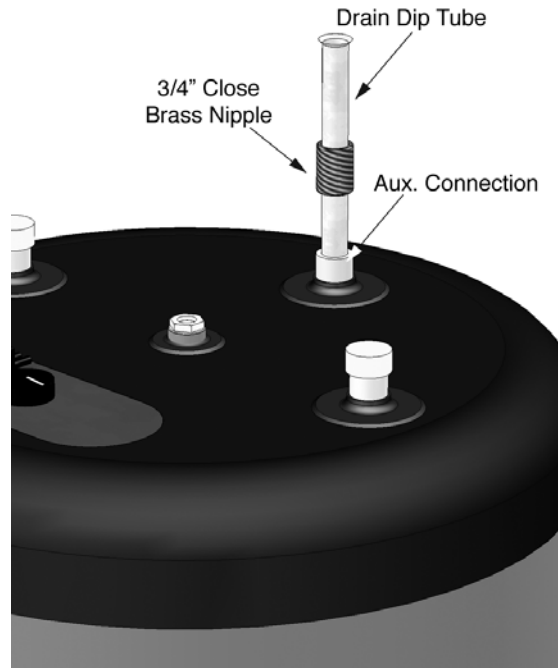

Figure 3.3: Domestic Water Drain Tube Assembly: Commonwealth of Massachusetts Requirements
- b. Thread a 3/4" close nipple onto the Auxiliary connection and insert an open-end dip tube into the Auxiliary connection on top of water heater. As shown in Fig. 3.3.
2. It is recommended that the recirculation dip tube be installed in auxiliary connection using a close nipple assembly as shown Fig. 3.3, page 9. See Table 1.1 page 6 for diameter and length of dip tube.